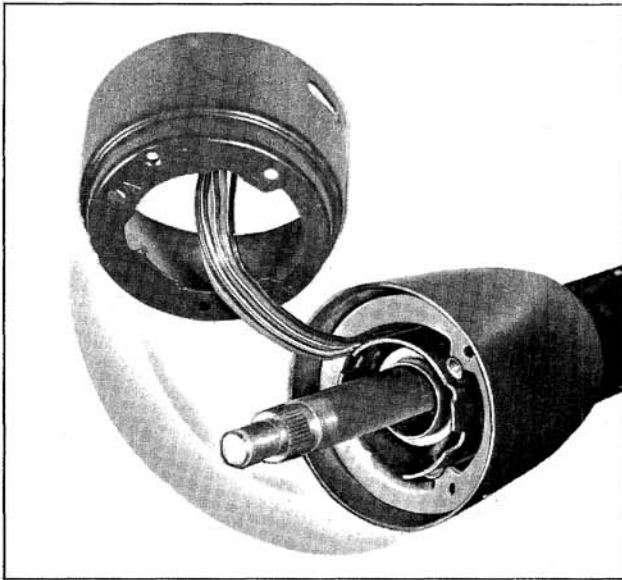

Fig. 8-90 Shift Stop Plate Under Tangs
7. Observe the three tangs on the mast jacket and while guiding the turn signal wiring through the shift lever, align the slots in the signal housing and drop into position. Figs. 8-90 and 8-91 illustrate the tangs and the rotation of the housing to obtain a locked position.